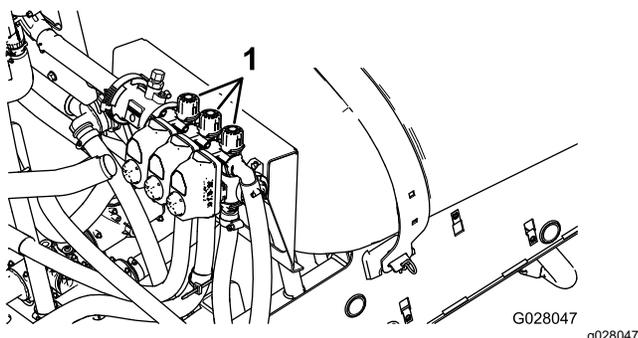

Figure 21
- Adjust the right section-bypass knob (Figure 21) until the pressure reading is at the previously adjusted level (typically 2.75 bar or 40 psi).
- Adjust the center section-bypass knob (Figure 21) until the pressure reading is at the previously adjusted level (typically 2.75 bar or 40 psi).
- Turn off the left section and adjust the section-bypass knob (Figure 21) until the pressure reading is at the previously adjusted level (typically 2.75 bar or 40 psi).